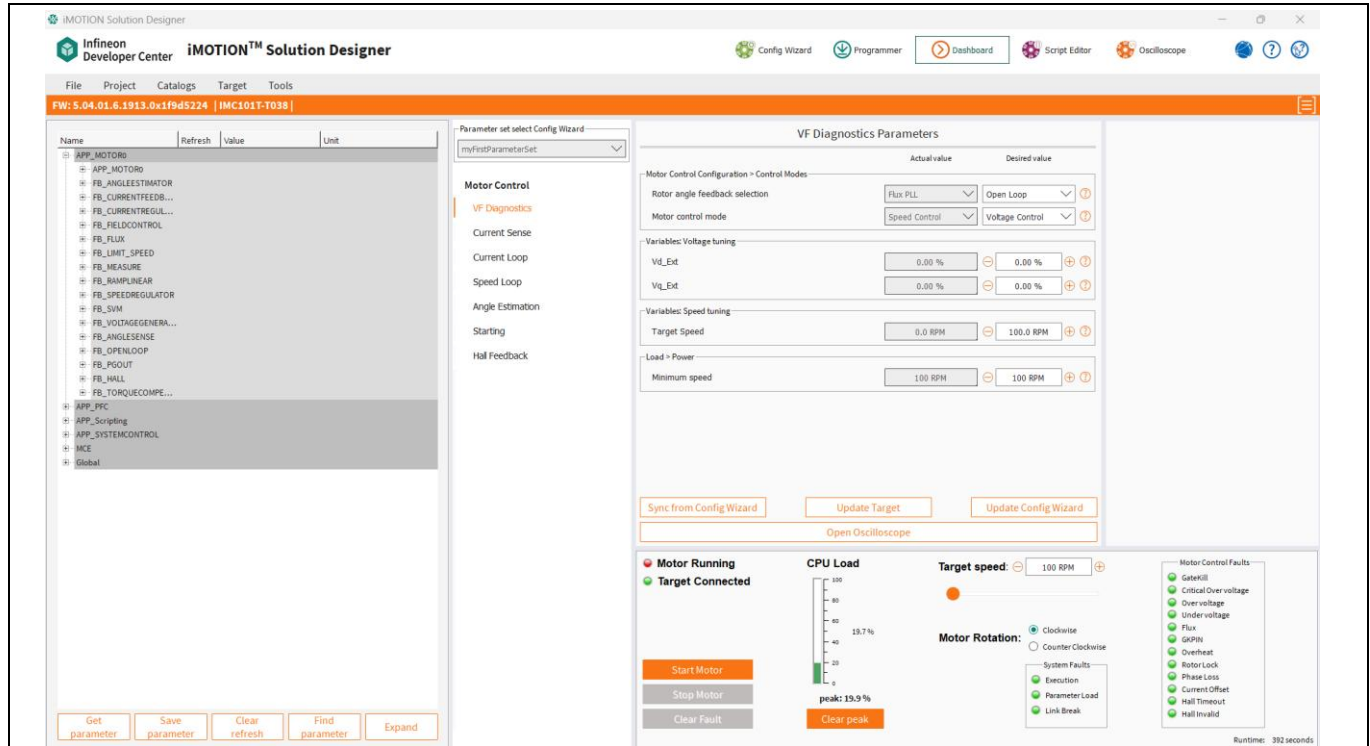

Figure 26 Dashboard
11. Close programming window in Figure 26. Click “Tools -> Dashboard” and click “no” on popup window “Download Parameter to target before switching to Dashboard” to enter dashboard window. Then you can change “Target speed” and click “Start Motor” to run a motor for evaluation test.